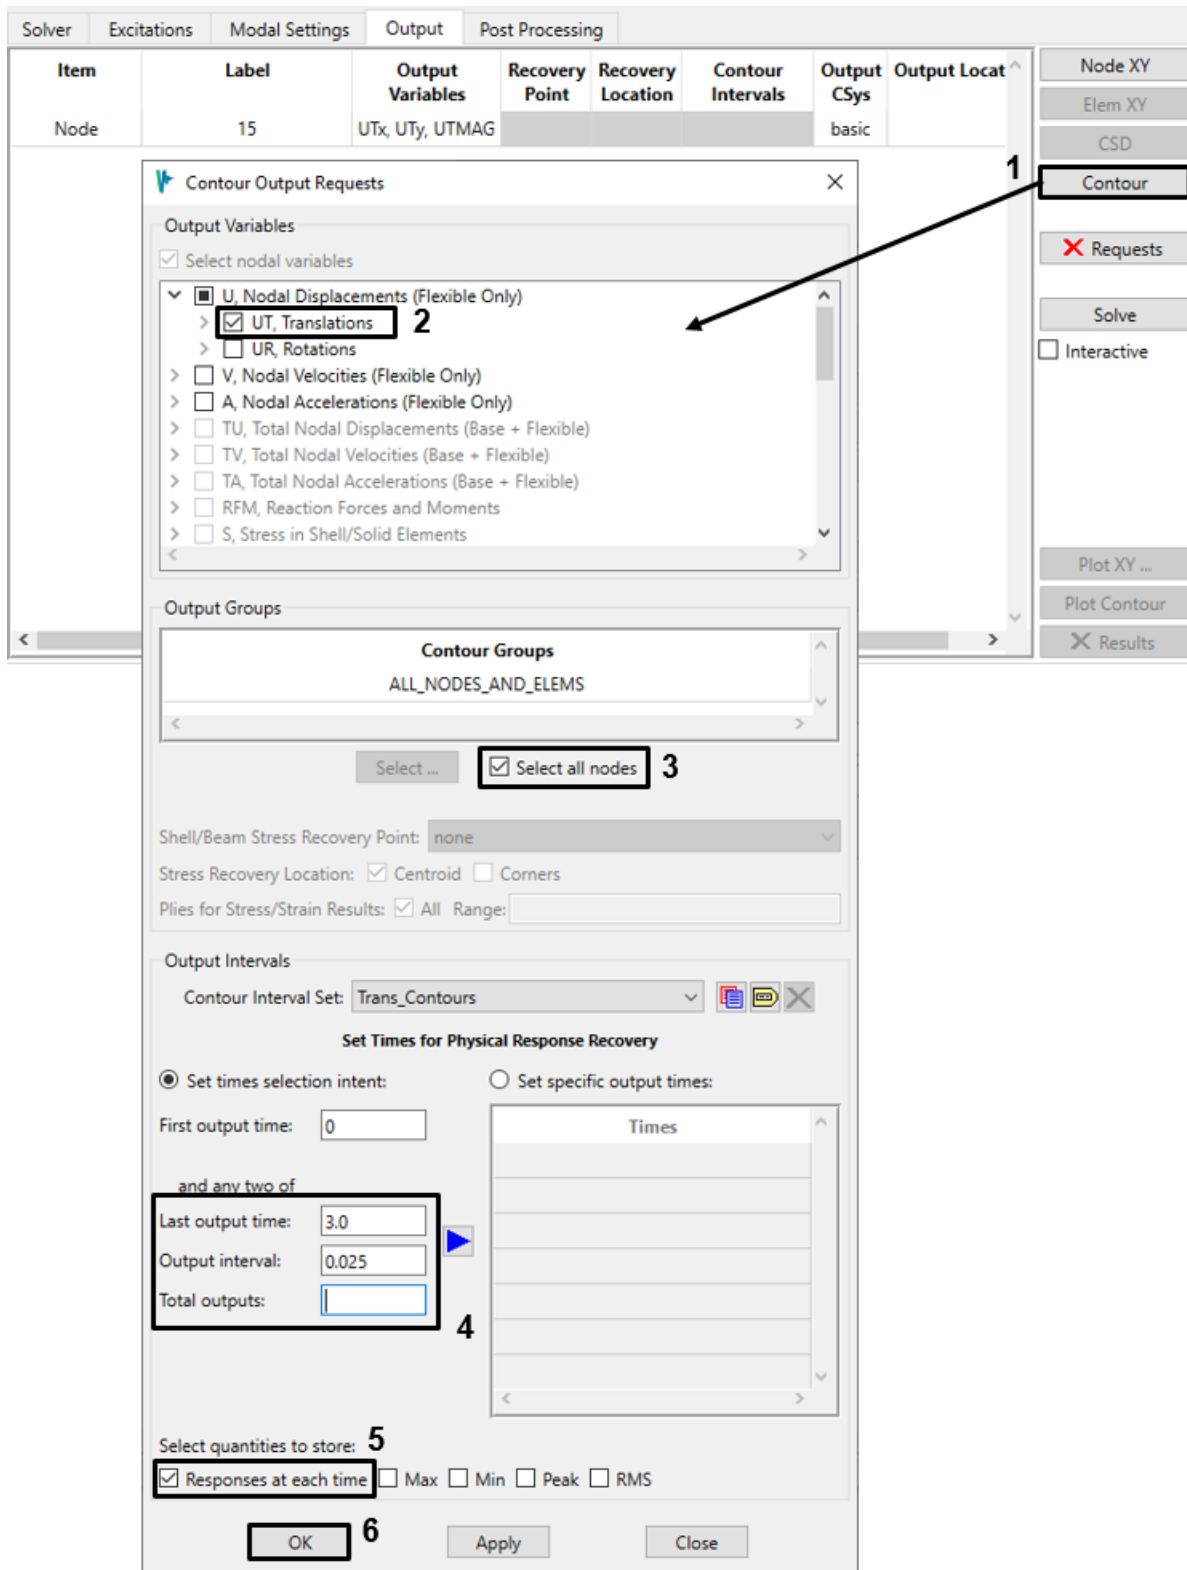
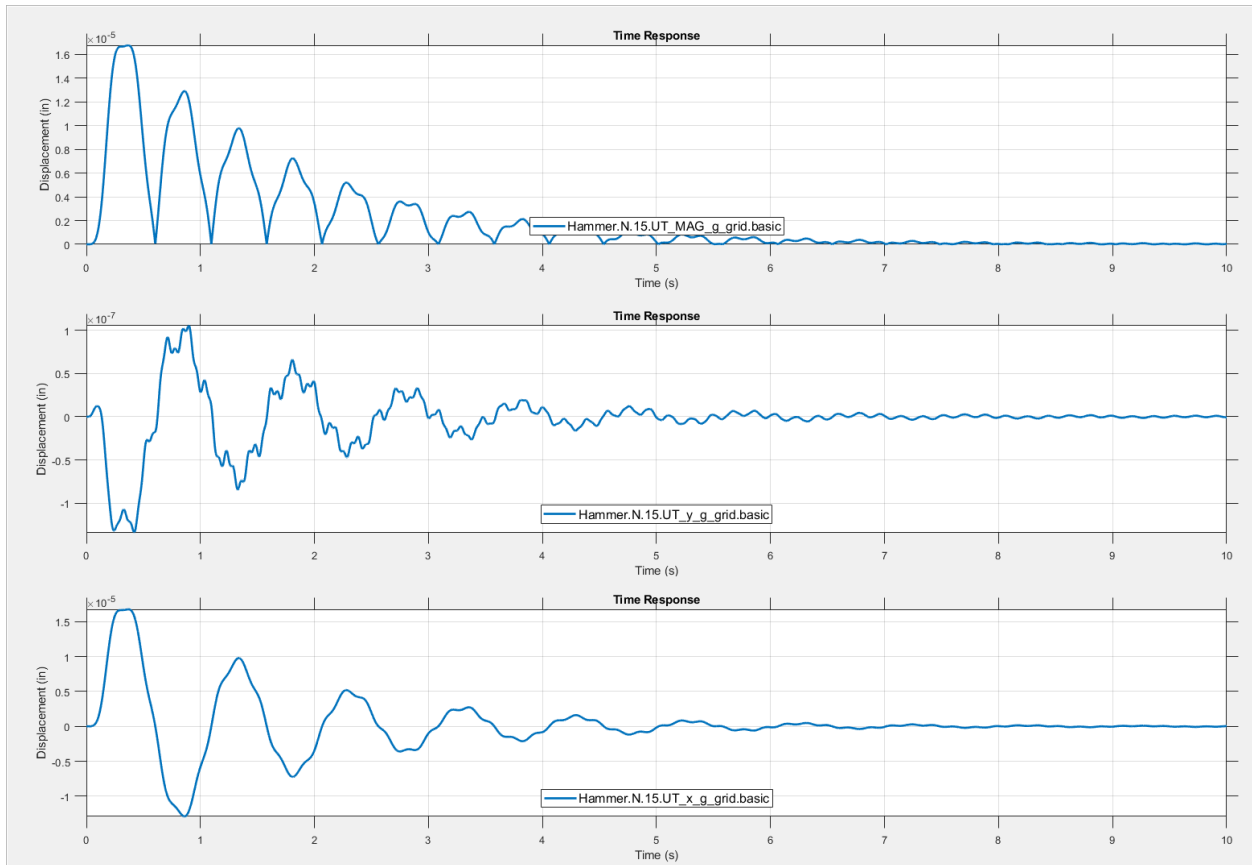

Figure 4-120. Request displacement (*UT*) contours for the first 3 seconds of the event.
Figure 4-121. Transient displacements for node 15.
- In order to create an animation of the structure in motion, create a contour request for displacement (UT) at all nodes (Figure 4-120). Enter 0.0 for the *First output time* and 3.0 for the *Last output time* to create contours from 0.0 to 3.0 seconds. We have selected 3 seconds as the end time because the structure's response will decay to about 30% of its maximum by then (see Figure 4-121). Set the *Output interval* to 0.025 (seconds) and leave *Total outputs* blank. This will produce 121 time frames for
9. Solve the event. Click the **Plot XY** button to view the requested nodal displacement histories. These are shown in Figure 4-121 using the *stacked* plot mode. Note the different orders of magnitude on the Y-axis labels.